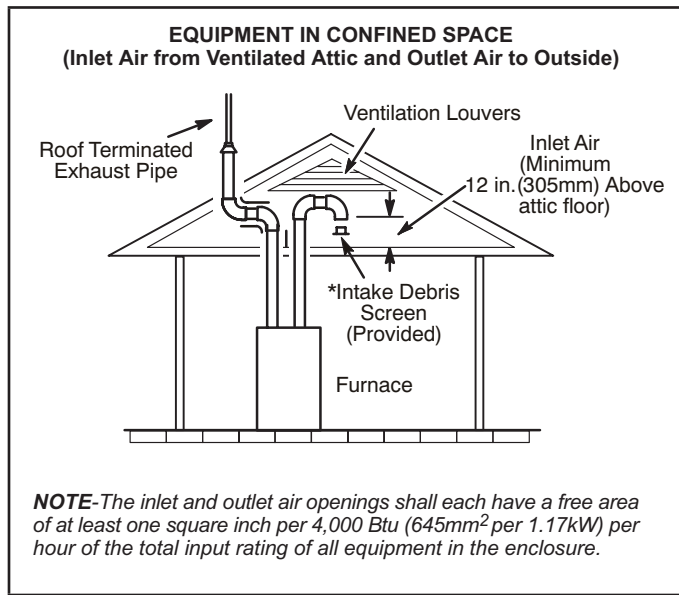
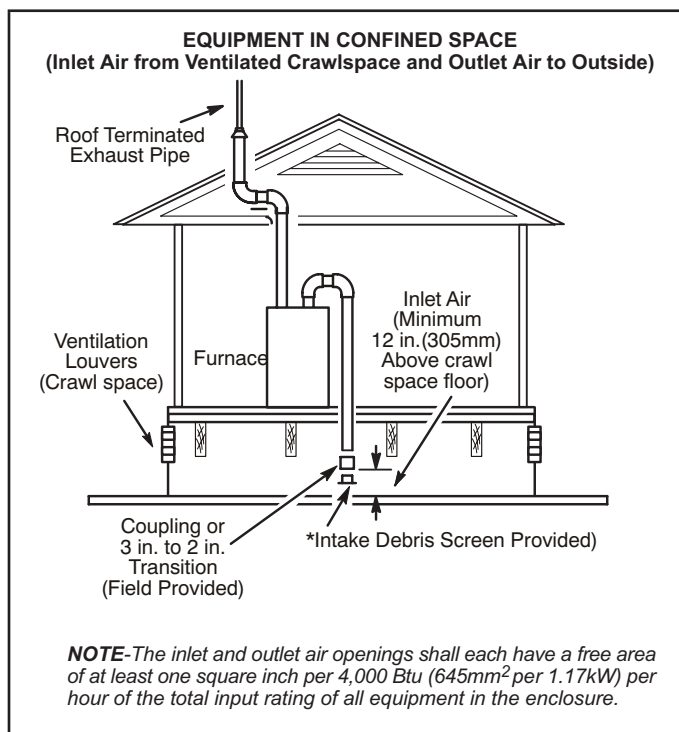

FIGURE 30
FIGURE 31
- 2 - If intake air is drawn from a ventilated attic (FIGURE 30) or ventilated crawlspace (FIGURE 31) the exhaust vent length must not exceed those listed in TABLE 14. If 3" diameter pipe is used, reduce to 2" diameter pipe at the termination point to accommodate the debris screen.